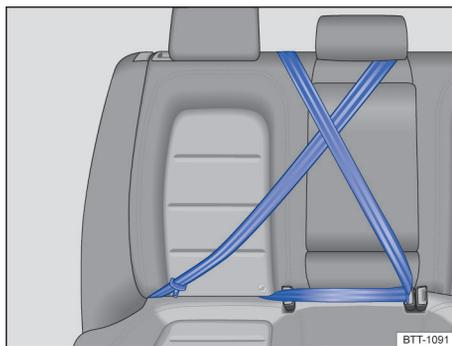

Fig. 39 Keep unused safety belts away from children in child restraints.
You must take special precautions when installing a LATCH/UAS child restraint behind the front passenger or driver seats. Always route the center safety belt and the unused safety belt for the seating position where the child restraint is being installed securely out of the child's reach. Securing the safety belts will help prevent a child from playing with an unused safety belt and becoming entangled with it → fig. 39.
- Route the safety belt around the head restraint for the center seating position → fig. 39.
- Buckle the safety belt → fig. 39.
You must take special precautions when installing a child restraint with the vehicle safety belt or with LATCH/UAS lower universal anchorages behind the front passenger seat or behind the driver seat. Always route the center safety belt and the unused safety belt for the seating position where the child restraint is being installed securely out of the child's reach. Securing the safety belts will help prevent a child from playing with an unused safety belt and becoming entangled with it → page 71, *Using a child restraint on the rear seat*, → fig. 39.
front passenger seat or behind the driver seat. Always route the center safety belt and the unused safety belt for the seating position where the child restraint is being installed securely out of the child's reach. Securing the safety belts will help prevent a child from playing with an unused safety belt and becoming entangled with it → page 71, *Using a child restraint on the rear seat*, → fig. 39.